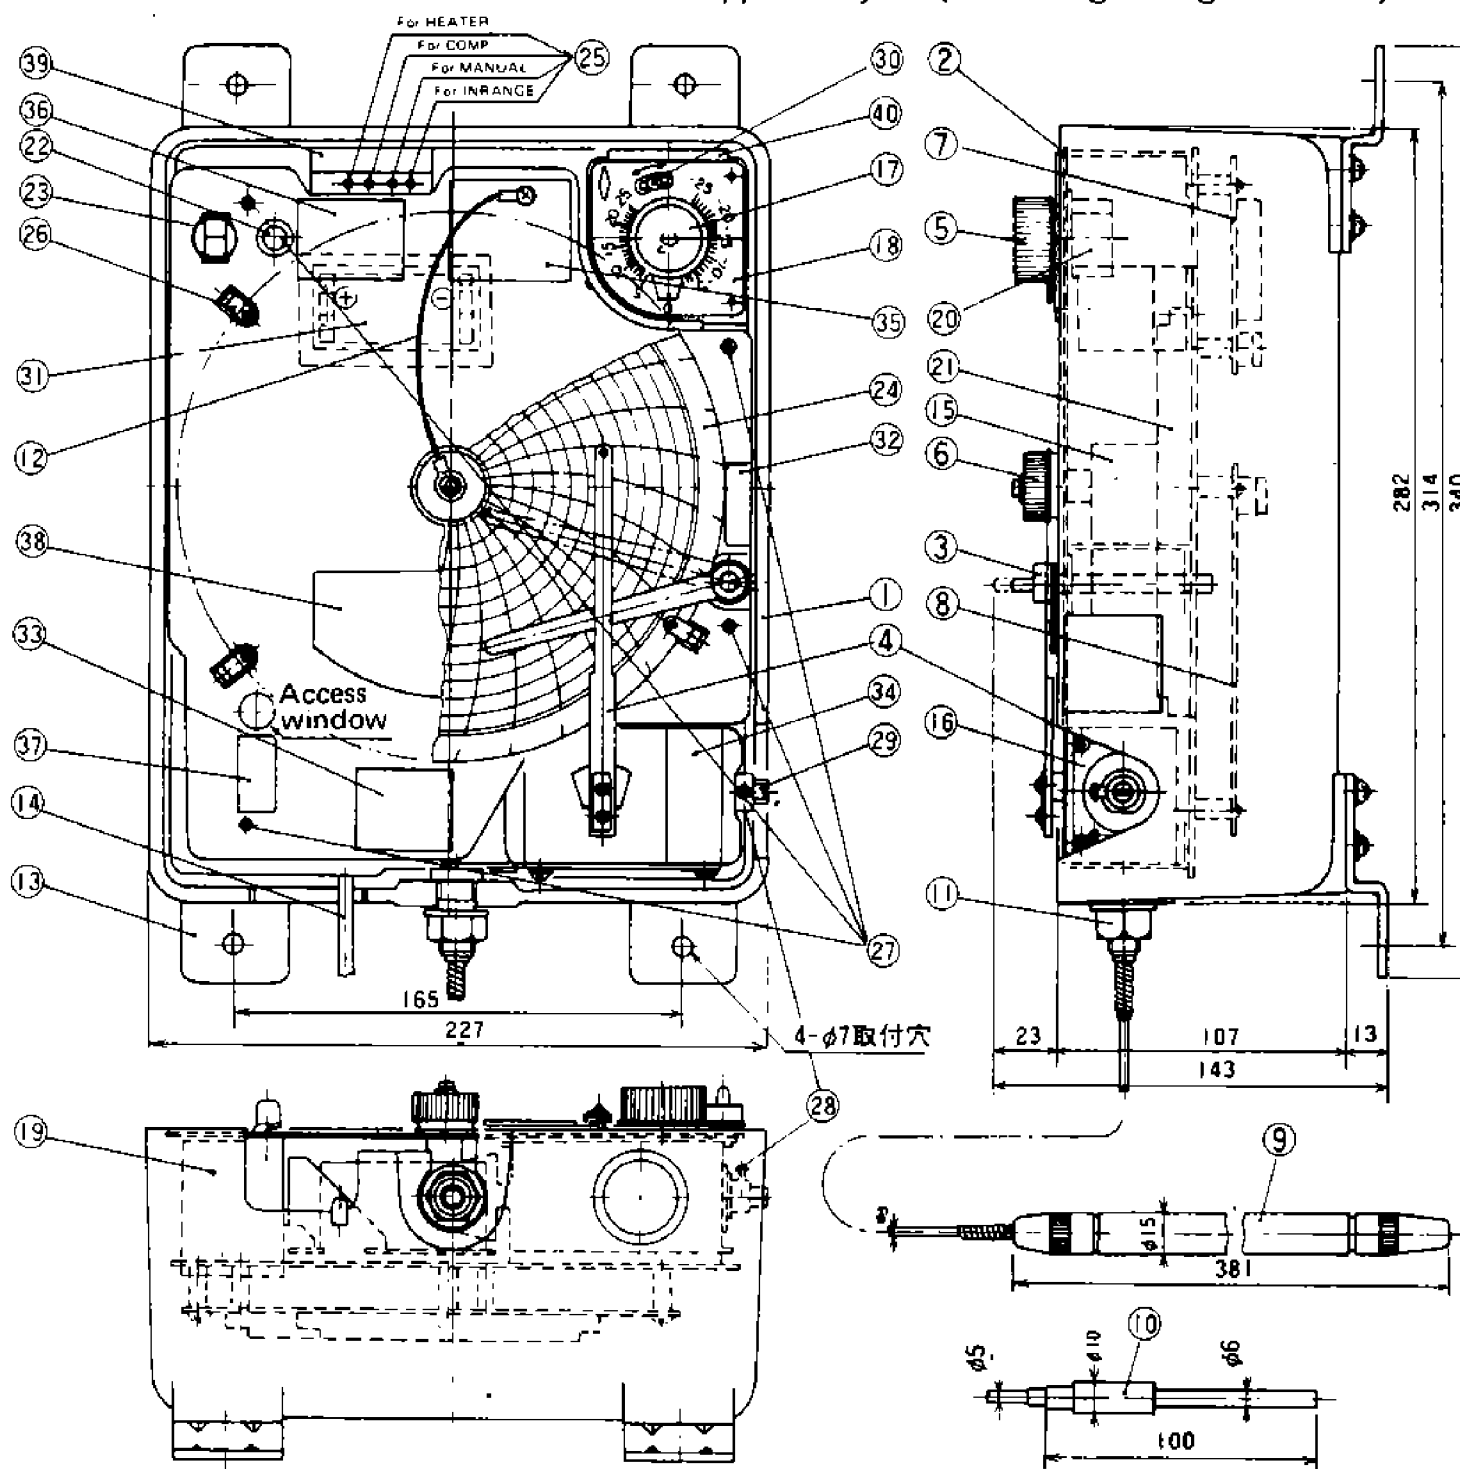

Fig. 1 Structure
- External wiring (Wiring from the devices in the control box to the unit. to Terminal 21 in Fig. 1)
(2) Recording part